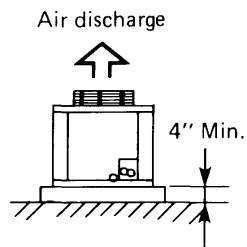

Fig. 5
- provide a solid base; about 4'' above ground level to reduce humidity and possible water damage in unit and decrease service life. Fig. 5